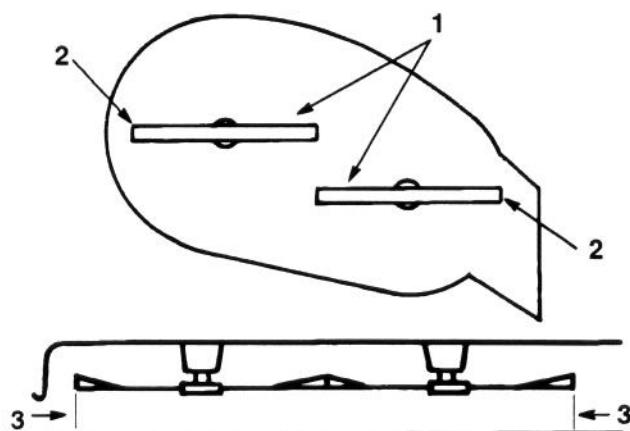

Figure 48
4. Carefully rotate blade(s) side to side (Fig. 48). Measure between the outside cutting edges and the flat surface (Fig. 48). If both measurements are not within $3/16"$ (4.762mm), an adjustment is required; refer to steps 5 and 6.